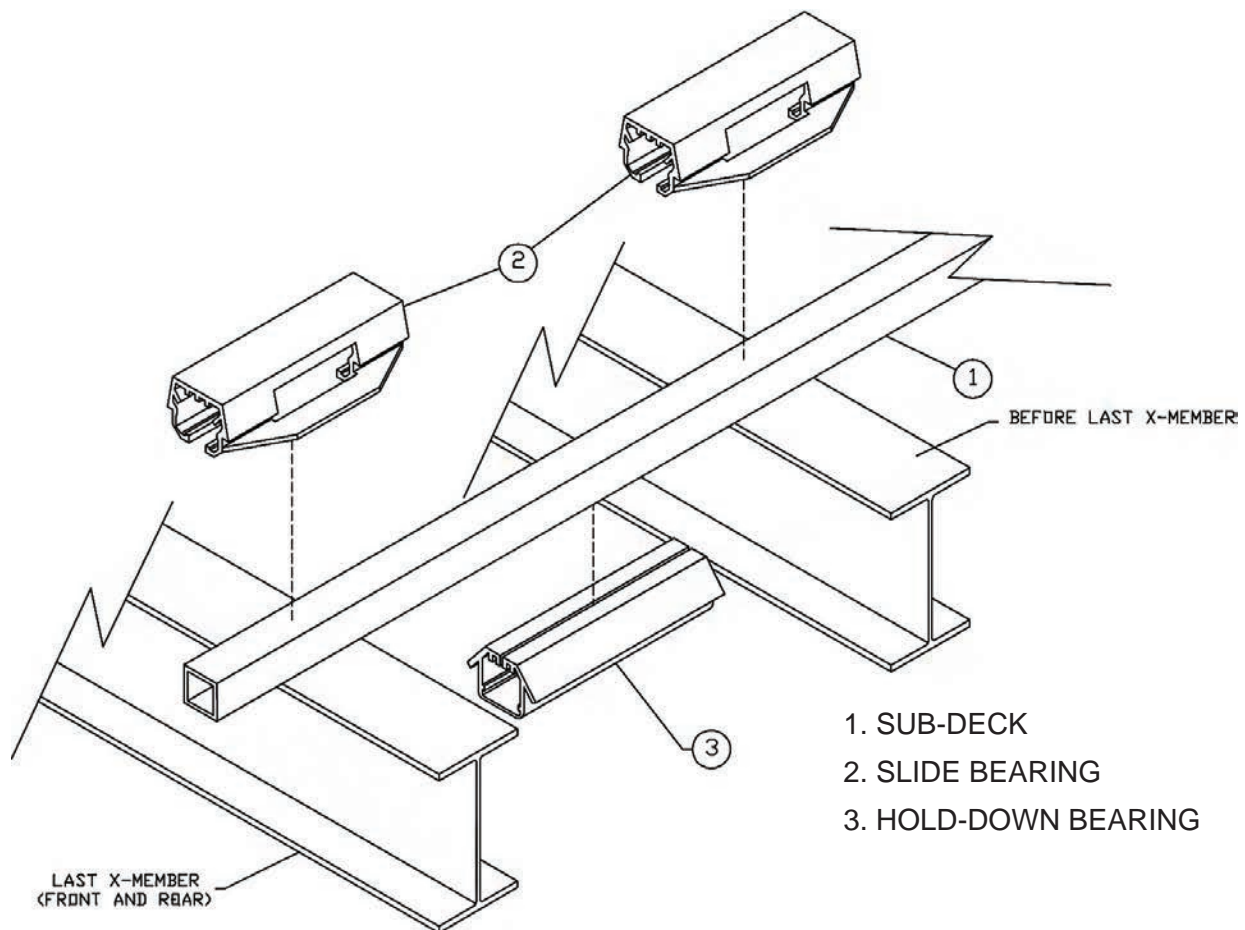

Figure 26
- 2) Snap slide bearings on the square tube at the junction of each cross-member. A rubber mallet works well for this procedure. (Figure 26).